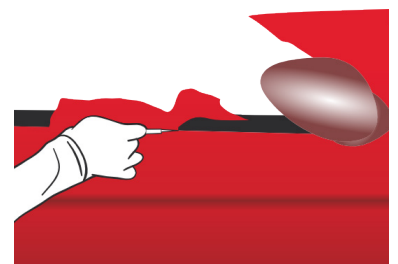

Figure 31
- › For cutting, the cutter blade must be placed in a flat position, between the body and the seal, and perpendicular to the seal. Carry out the cutting operation by always maintaining this blade orientation. (FIG. 31)